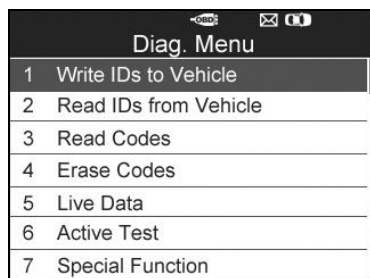

Figure 4.22
- 1) From the TPMS Diagnosis Menu, use the **UP/DOWN** scroll button to select the **Write IDs to Vehicle**, and press **Y** button. (Figure 4.22)
- 1) From the TPMS Diagnosis Menu, use the **UP/DOWN** scroll button to select the **Read IDs from Vehicle**, and press **Y** button. (Figure 4.22)
- 1) From the TPMS Diagnosis Menu, use the **UP/DOWN** scroll button to select the **Read Codes**, and press **Y** button. (Figure 4.22)
- 1) From the TPMS Diagnosis Menu, use the **UP/DOWN** scroll button to select the **Erase Codes**, and press **Y** button. (Figure 4.22)
- 1) From the TPMS Diagnosis Menu, use the **UP/DOWN** scroll button to select **Live Data**, and press **Y** button. (Figure 4.22)